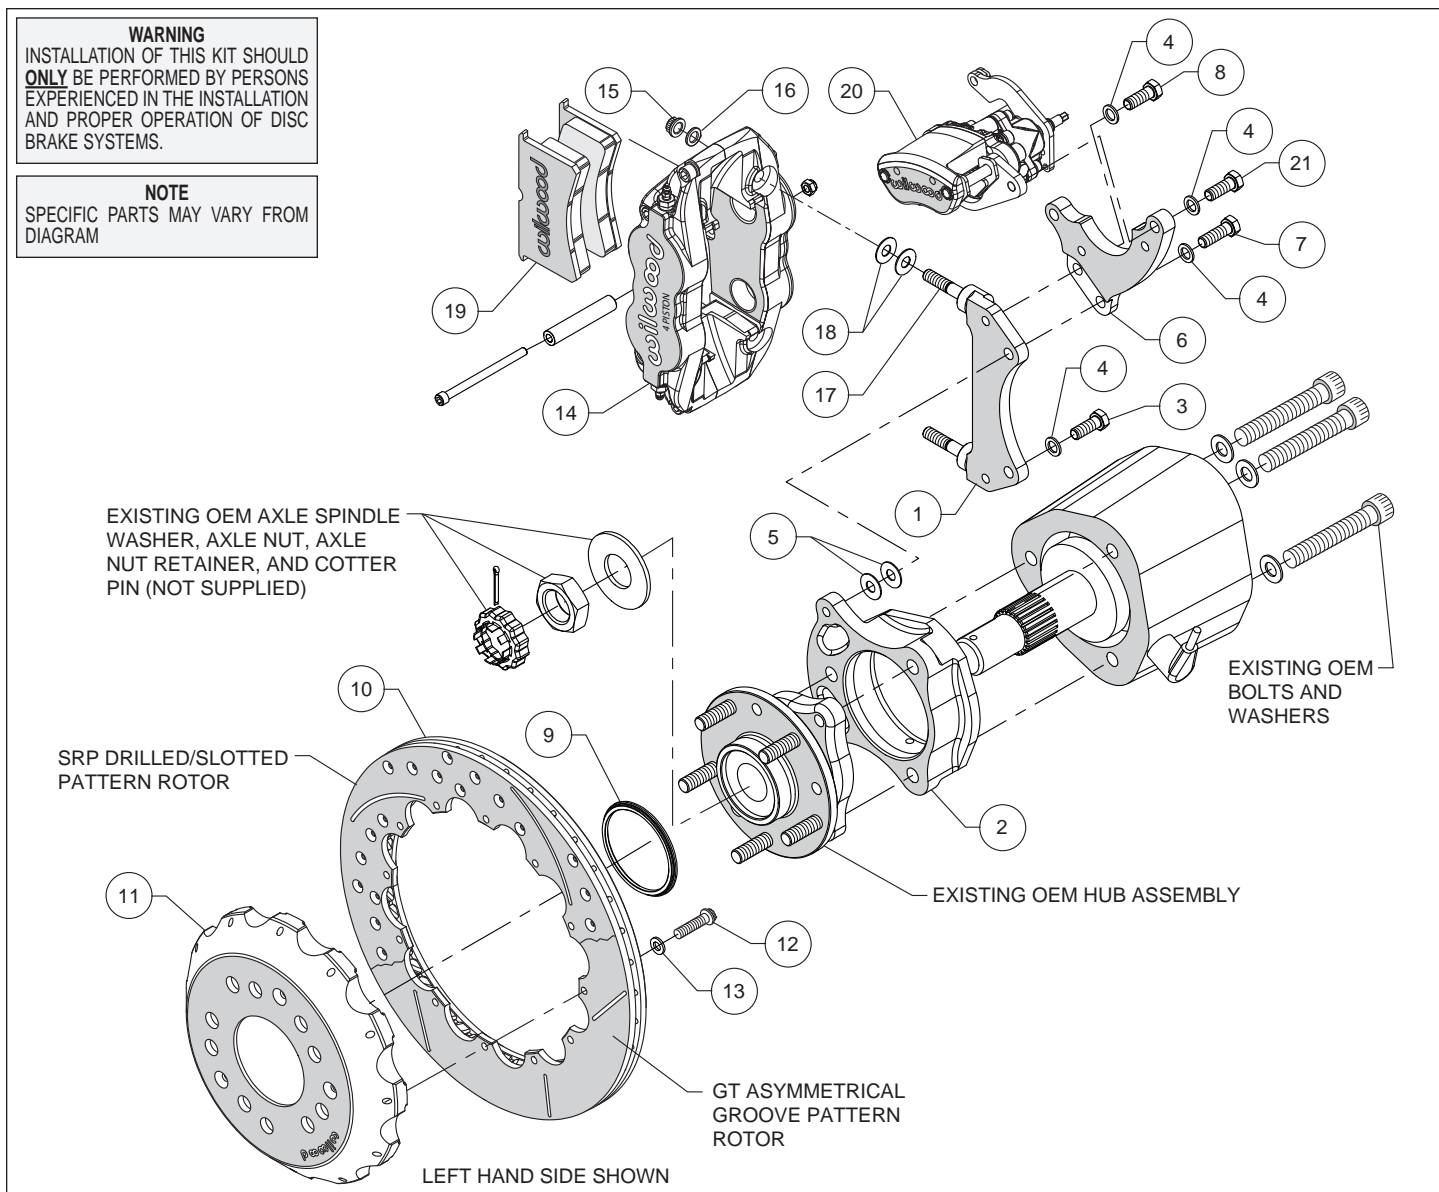
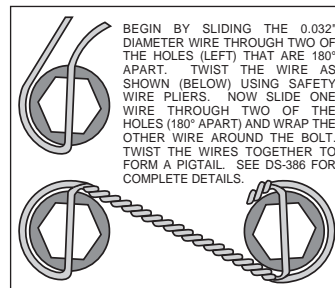

Figure 1. Typical Installation Configuration
Figure 3. Safety Wire Diagram
Assembly Instructions (numbers in parenthesis refer to the parts list and Figure 1 on the preceding pages):
- The caliper and parking brake mount brackets should initially be installed with clean, dry threads on the mounting bolts. Orient the parking brake bracket (6) and caliper bracket as shown in Figure 1 and Photo 1. Attach parking brake bracket using top bolt (8) and washer (4) (arrow). Do not tighten.
- Attach the radial mount caliper bracket (1) to the axle hub bracket (2) using bolts (3 and 7) and washers (4) as shown in Figure 1 and Photo 1. Initially place two .035" thick shims (5) on bolts (3 and 7) between the radial bracket and axle hub bracket, Figure 1. Temporarily tighten all three bolts. Later, after the caliper alignment has been checked, the mount bolts will be secured using red *Loctite*® 271.
- Orient the caliper bracket assembly (1, 2 and 6) as shown in Figure 1 and Photo 2. **NOTE:** The bracket assembly must fit squarely against the face of the upright. Inspect for interference from casting irregularities, machining ridges, burrs, etc.
- Slide the rotor registration adapter (9) onto the axle register on the hub assembly with the smaller O.D. facing outward, Photo 4.
- Orient the rotor (10) and the hat (11) as shown in Figure 1 and Photo 5. Attach rotor to hat using bolts (12) and washers (13). Using an alternating sequence, apply red *Loctite*® 271 to the threads, and torque to 155 in-lbs. For an added measure of security, the bolts may be safety wired using standard 0.032 inch diameter stainless steel safety wire as shown in Figure 3. Please refer to Wilwood's data sheet DS-386 for complete safety wire installation instructions.
in Figure 1 and Photo 7. Mount the caliper (14) onto the bracket (1) using lock nuts (15) and washers (16), Figure 1. Temporarily tighten the lock nuts and view the rotor through the top opening of the caliper. The rotor should be centered in the caliper, Photo 8. If not, adjust by adding or subtracting shims (5) between the radial bracket (1) and the axle hub bracket (2). Always use the same amount of shims on each of the two mounting bolts. Once the caliper alignment is correct, remove the radial/MC4 bracket mounting bolts (3, 7 and 8) one at a time, apply red *Loctite*® 271 to the threads, and torque bolts to 35 ft-lb.
- Mount the parking brake caliper (20) onto the top section of the caliper bracket assembly (1 and 6) using bolts (21) and washers (4), as shown in Figure 1 and Photo 12. Apply red *Loctite*® 271 to bolt threads, and torque to 30 ft-lb.